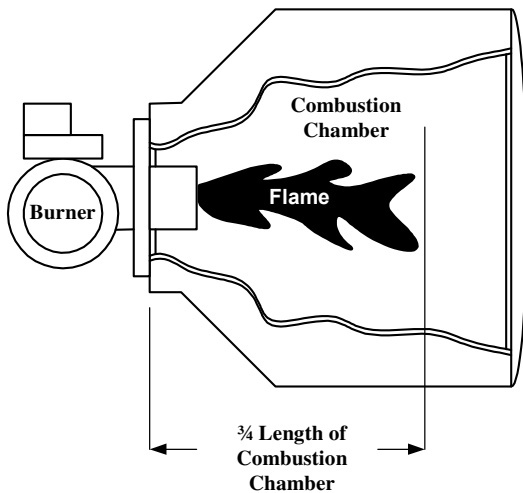
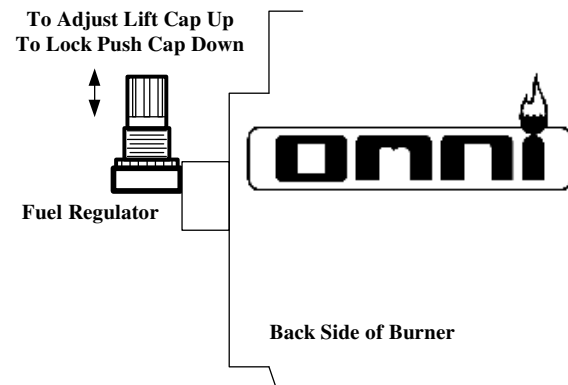

Figure 8 – Flame Adjustment
Figure 9 – Fuel Regulator
- **Oil Pressure Gauge:** (figure 4) Displays oil pressure at the burner. Adjust flame to 3/4 length of combustion chamber (figure 8) by increasing CW or decreasing CCW the adjuster located on the left side of burner (figure 9). The fuel regulator increases or decreases delivery of fuel to the burner. When you increase or decrease the fuel to the burner you will notice the flame length will increase or decrease.
- **Fuel Regulator:** (figure 7, 12) The fuel regulator increases or decreases delivery of fuel to the burner. When you increase or decrease the fuel to the burner you will notice the flame length will increase or decrease. Adjust flame to 3/4 length of combustion chamber (figure 8) by increasing CW or decreasing CCW the fuel regulator located on the left side of burner (figure 9).